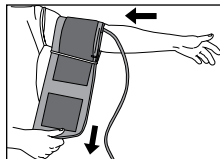
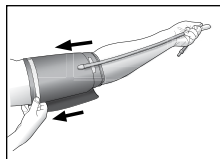

Fig. 3
Fig. 4
2. Slide the cuff cylinder onto your left arm and align the air hose over the main artery on the inside of your arm, Fig 3. For proper positioning, the tube should follow the inside length of the arm, Fig 4.